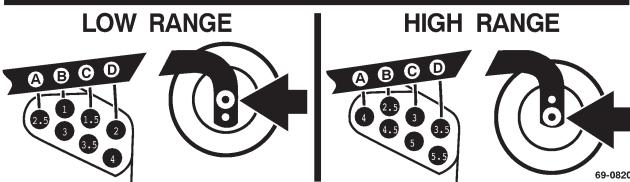

Figure 12
**Note:** Unless all castor wheel axles are not in the same location, axles do not have to be relocated. All, however must be in the same holes (Fig. 12).
The height-of-cut is adjustable from 1 to 5-1/2 in. (25 to 140 mm) in 1/2 in. (13 mm) increments. Positioning the castor wheel axles in the top holes of the castor forks (Fig. 12) allows Low range height-of-cut settings from 1 to 4 in. (25 to 102 mm); positioning the castor wheel axles in the lower holes of the castor forks (Fig. 12) allows High range height-of-cut settings from 2-1/2 to 5-1/2 in. (63.5 to 140 mm).